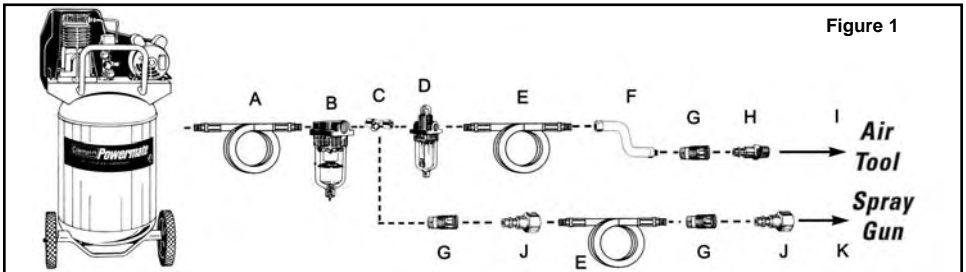

Figure 1
- Connect the tool to the air hose quick coupler. **NOTE: It is recommended that a whip hose with a swivel (P012-0079SP - not included) be used to prevent twisting, kinking and excessive wear to the air hose (ref. item "F" in figure 1 for recommended connections).**
To maintain the maximum performance of the air tool, it must be lubricated each time it is used. Dust, dirt, rust and oil residue will build up inside the tool and reduce the performance. An in-line oiler is recommended for proper automatic tool lubrication (see Figure 1). If an in-line oiler is not available, the tool can be lubricated manually through the inlet port (see Figure 3).